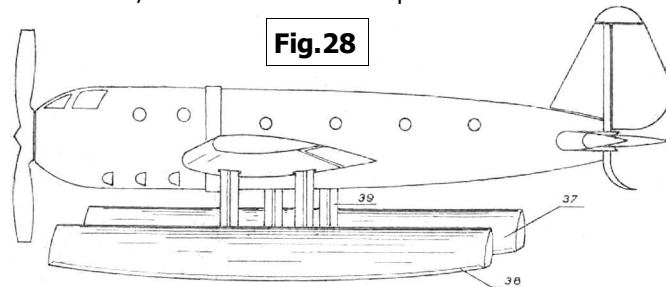

Fig.28
**Landing Gear** #24 Undercarriage Leg. #25 Wheel. #37,38 Float Upper, Lower. #39 Z-Strut, 2 for each float. One end was bolted to the inner face of the Upper Float, and at first the other was bolted to the Centre Fuselage, probably to the Phase 1 Studs. Later, but perhaps not until Phase 3, the Struts were bolted to the Wing Rib #28 as in Figs 28 & 29. This change necessitated a change to the slots in the Lower Wing Skin to suit the holes in the float, 34mm apart. - in Phase 1 they are at 12mm centres, as in Fig 5 & 6. The Rib in Fig.17 with holes at 25mm would seem to be an intermediate stage.